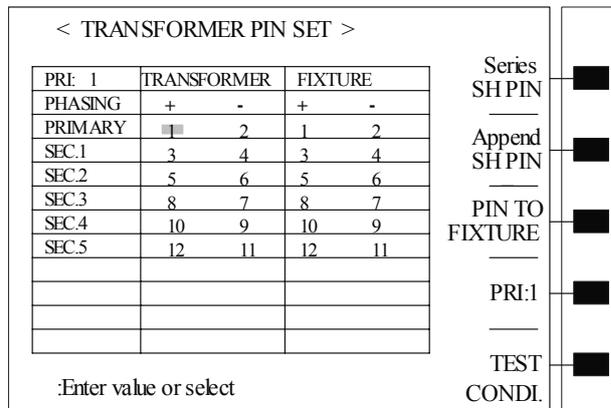

Figure 3-2-3-3
- Press **[Exit]** soft-key to return to **<Transformer pin set>** page layout, here, **<Transformer pin set>** page layout showed as figure 3-2-3-3: